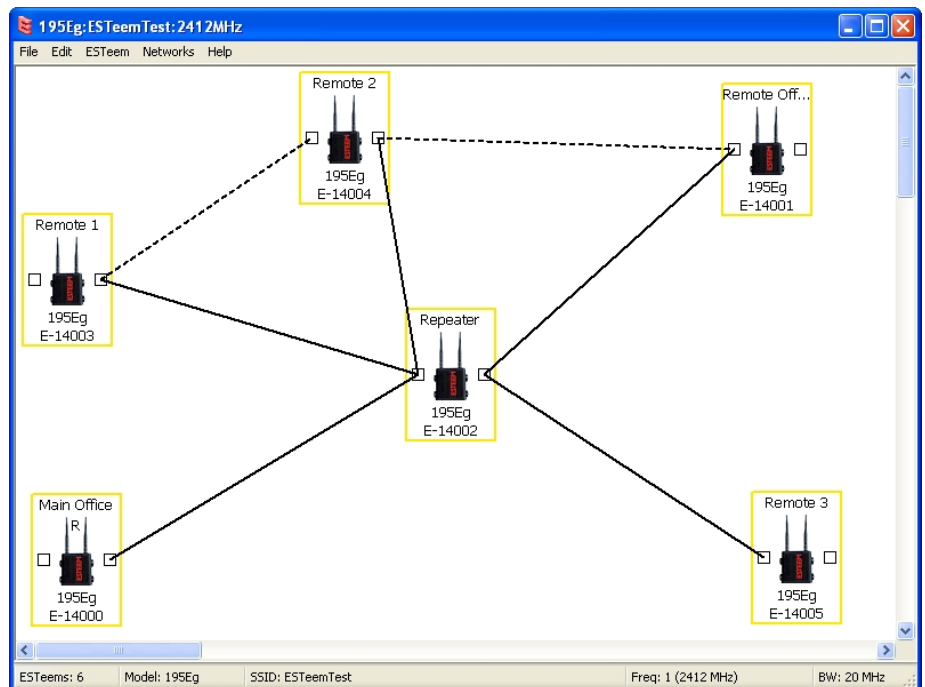

Figure 17: Mesh Network Configuration
2. Move the ESTeem 195C/M icons on the screen to simulate the layout of the diagram. Draw connection lines between the primary wireless links modems in the same order as the network layout (Figure 17).
in the repeater Mesh configuration (Figure 17). For detailed instruction on Mesh network configuration, refer to Chapter 7 of this User's Manual.